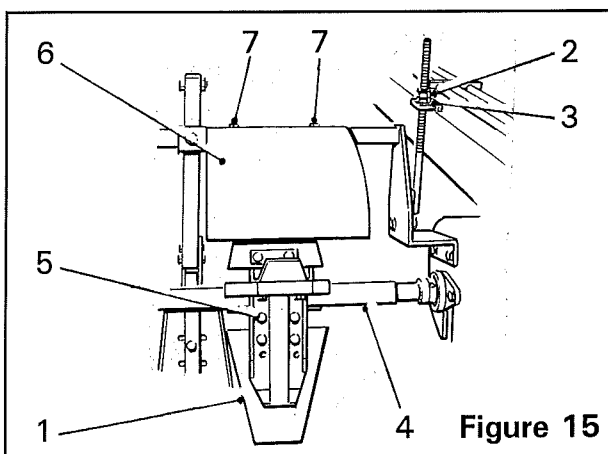

Figure 15
Rotating rubber flippers (*item 1, figure 15*) are fitted between the lifting wheels to transfer the sugarbeet onto the lift web. Provision is made to raise and lower the flippers which generally should be set higher when the beet are large, and lower when the beet are small. The speed of the flippers can be increased or decreased by turning the control knob (*item 10, figure 26*).
To adjust the height of the flippers, loosen the locknuts (*item 2, figure 15*) and turn the adjuster nuts (*item 3, figure 15*) until the flippers are in the required position. Ensure both sides are adjusted equally by checking that the drive shaft (*item 4, figure 15*) remains horizontal across the machine.
When changing row settings, it is also necessary to move the flippers and their safety guards to correspond with the final position of the lifting wheels. To adjust, loosen the bolts (*item 5, figure 15*) and slide the flippers along the drive shaft. Ensure the flippers are positioned centrally between the lifting wheels.
Position the safety guards (*item 6, figure 15*) directly above the flippers by loosening the mounting bolts (*item 7, figure 15*).